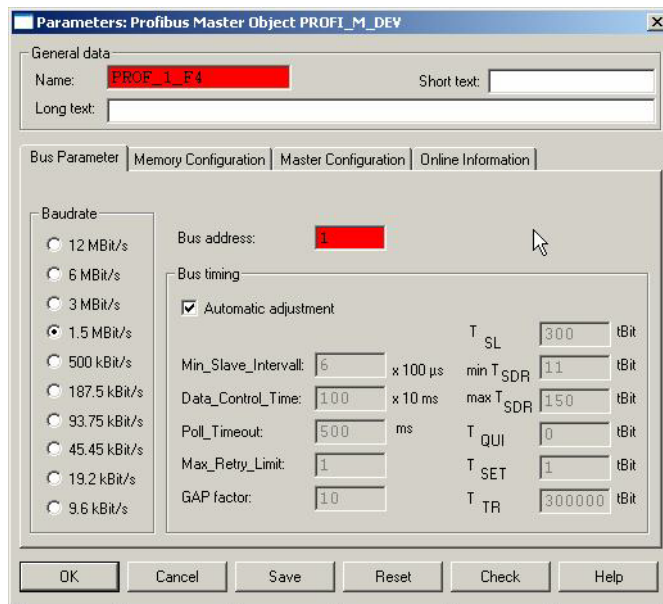

Figure 14. Freelance 800F - Network Configuration
- Via the parameter dialog as shown in Figure 14,